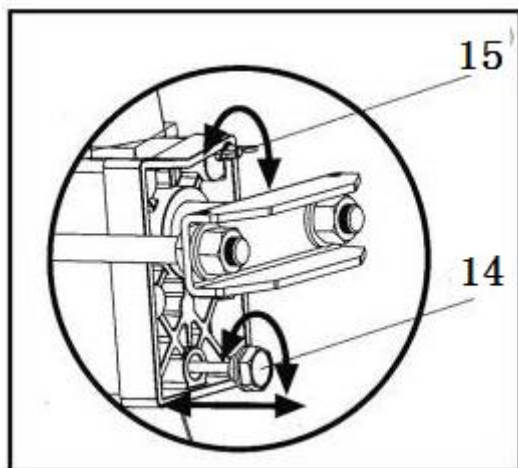

Fig.6
Before operating the log splitter, the Bleed Screw (15) Fig. 6, should be loosened by some rotations until air can go in and out of the oil tank smoothly.
2. Unscrew oil drain bolt (14) (fig.6) with dipstick to remove it.